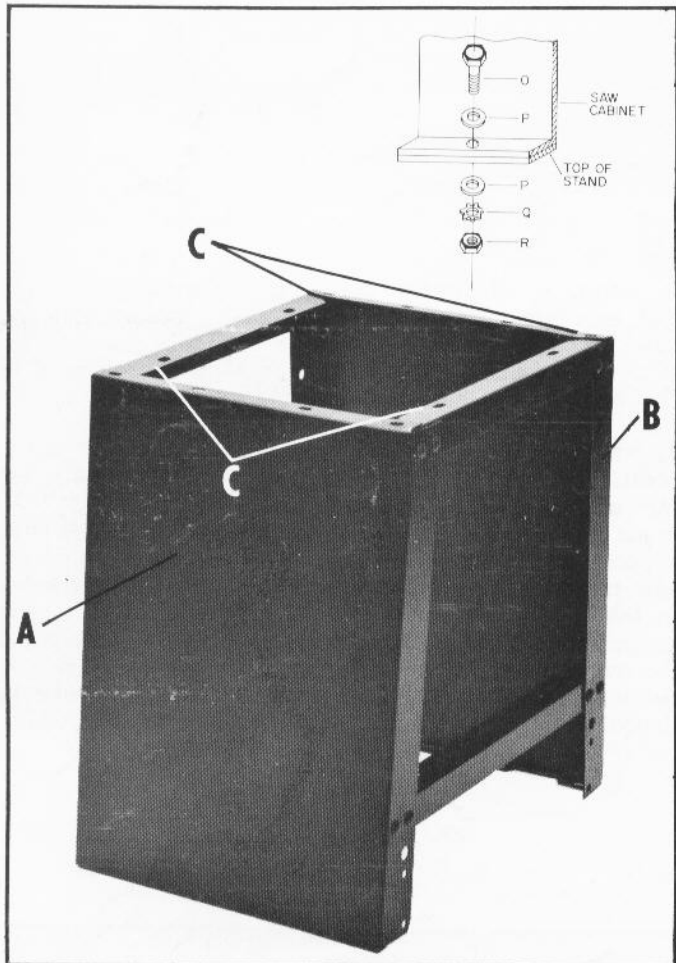

Fig. 11
Turn the saw right side up and set it on the stand. The front of the saw can be towards either panel (A) or (B) Fig. 11. If the front of the saw is towards panel (A), the holes (C) will be used to mount the saw to the stand. Use the four 1/4" x 3/4" hex head screws (O), eight 1/4" flat washers (P), four 1/4" lockwashers (Q) and 1/4" hex nuts (R) supplied, as shown in Fig. 11. NOTE: If the saw does not sit flush on the surface of the stand, shim the bottom of the cabinet using wooden wedges before bolting to prevent warpage of the table which might cause misalignment.